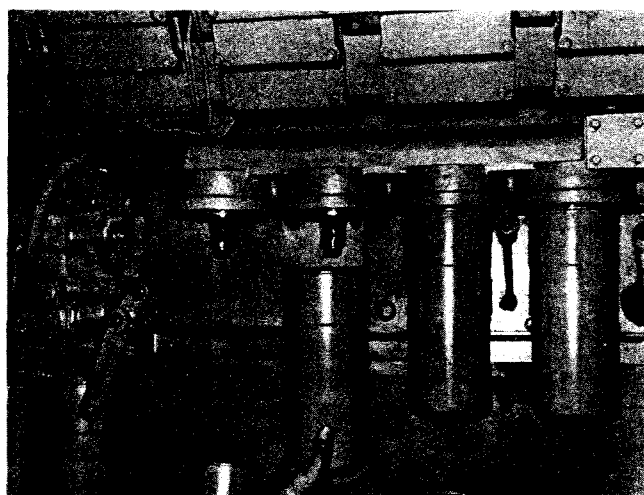

Fig. 2-16, (K21907). Installing "spin-on" lubricating oil filter — KT(A)-2300 Engine
3. Position element to filter head, Fig. 2-16. Tighten by